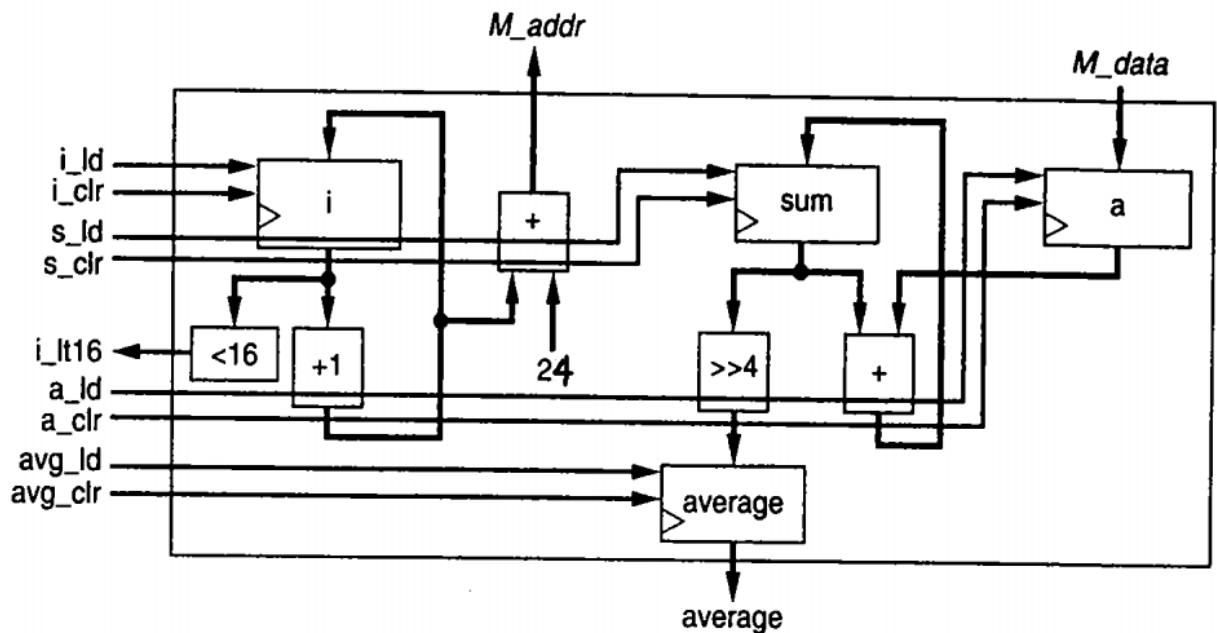

Figure 5.100 Datapath capable of computing the average of 16 elements of an array.
5.16 Create an FSM that interfaces with the datapath in Figure 5.100. The FSM should use the datapath to compute the average value of the 16 32-bit elements of any array *A*. Array *A* is stored in a memory, with the first element at address 25, the second at address 26, and so on. Assume that putting a new value onto the address lines *M_addr* causes the memory to almost immediately output the read data on the *M_data* lines. Ignore overflow issues.